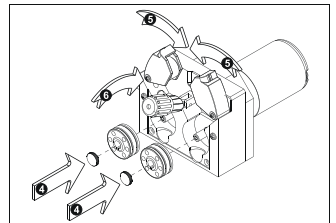

Figure 18 : Installing the Wire Feeding Rolls
- After inserting the rollers to be used, re-install the screws and lower the pressure rollers and lift the pressure roller lever and lock it onto the print rollers (Figure 18).